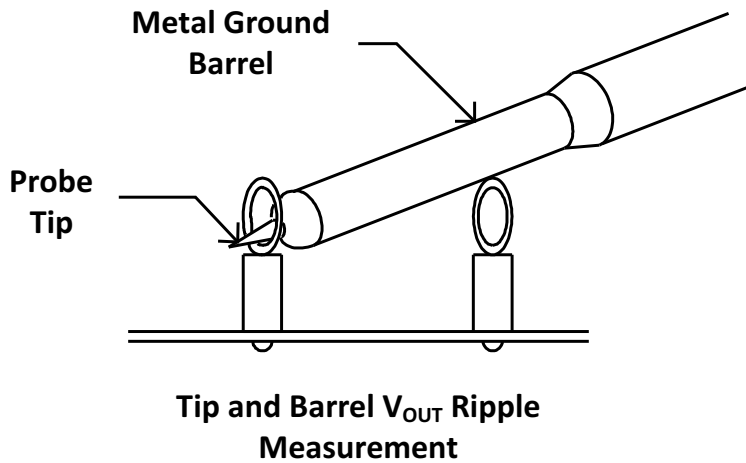

Figure 6-2. Tip and Barrel Measurement
**Oscilloscope:** An oscilloscope is recommended for measuring output noise and ripple. Output ripple must be measured using a tip-and-barrel method or better as shown in Figure 6-2. The scope must be adjusted to 20-MHz bandwidth, AC coupling at 50 mV/division, and must be set to 1- $\mu$ s/division.